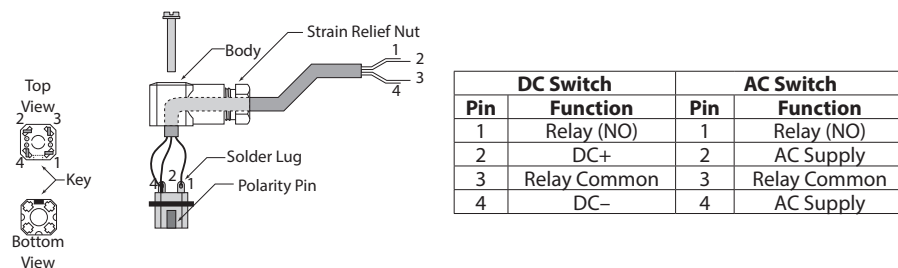

Figure 14: Wiring pinouts
3. The connector has four solder lugs labeled 1, 2, 3 and 4. Soldering wires to the terminals first requires disassembly of the connector as shown in *Figure 14*. The specific wiring pinouts for each style latching switch are shown in *Figure 14*.